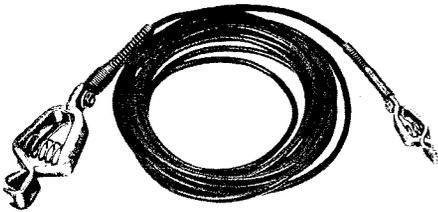

Fig. 9 – B Grounding Cord
- The B Grounding Cord is a 15-foot, 18 AWG, Single conductor cord with clips at both ends (See Fig. 9).